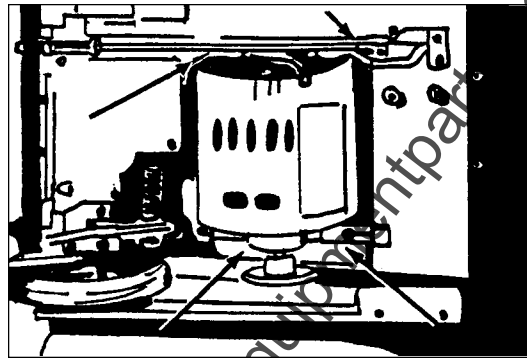

Figure 14
1. Remove the four mounting screws (1). See figure 14